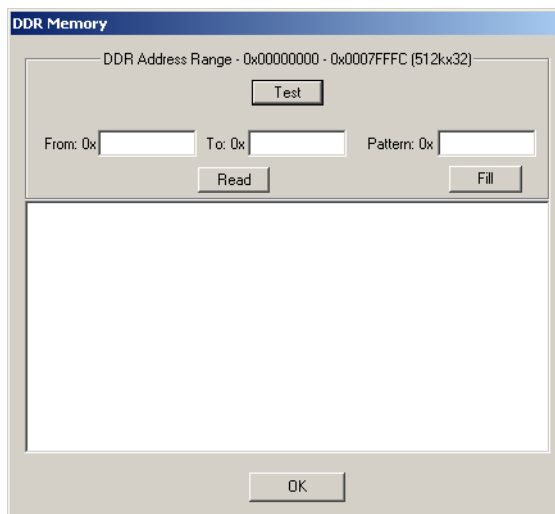

Figure 2-11. DDR Memory Active Window
3. **Click OK.** The DDR interface calibrates and the other buttons are available to use. See Figure 2-11.